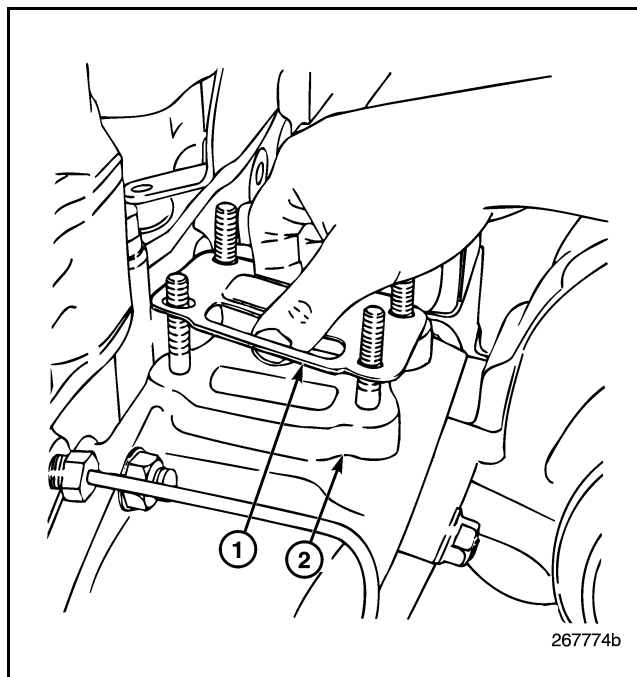

Figure 413 — Gasket Installation
- Install a **new** gasket on the EGR valve assembly mounting surface of the exhaust manifold (Figure 413).